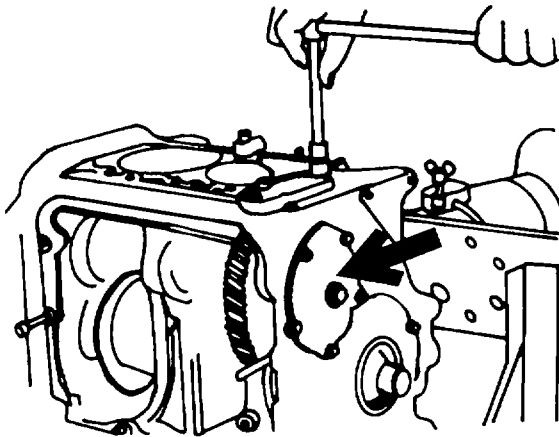
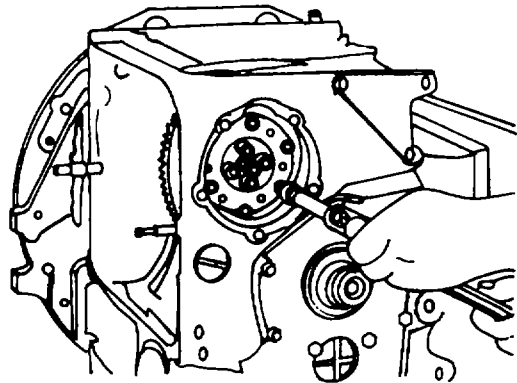
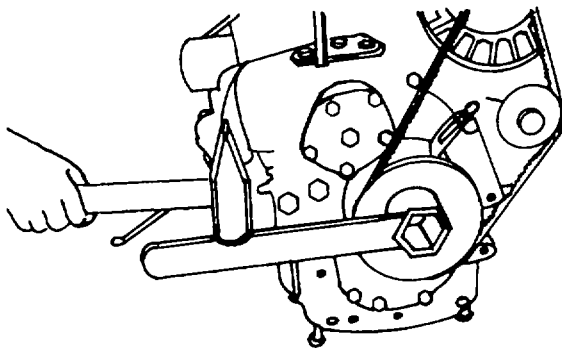
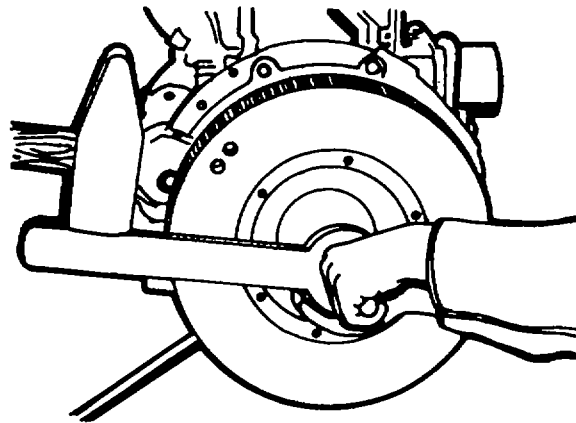

Figure 5-4. Removing Camshaft Cover
Figure 5-5. Remove the Camshaft Gearwheel
Figure 5-6. Remove V-Belt Pulley Nut
Figure 5-7. Removing Flywheel Nut
- a. Remove the bottom plate and the upper and front camshaft covers (figure 5-4). Disassemble the eccentric plate ring on the camshaft gear wheel and dismount the camshaft gear wheel (figure 5-5). Remove V-belt pulley (figure 5-6) and unscrew the nut on the flywheel (use hammer spanner No. 003-0670 (figure 5-7) or 2-15/16-inch socket with breaker bar).